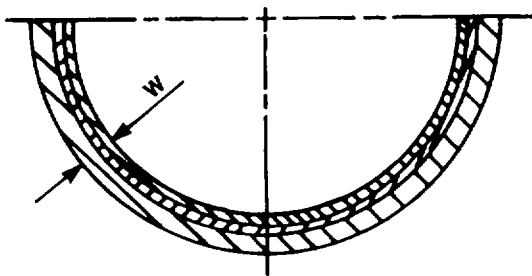

Figure 5-62. Standard and Oversize Wall Thickness
- b) Standard and oversize wall thickness W (figure 5-62) should be taken from the specifications.